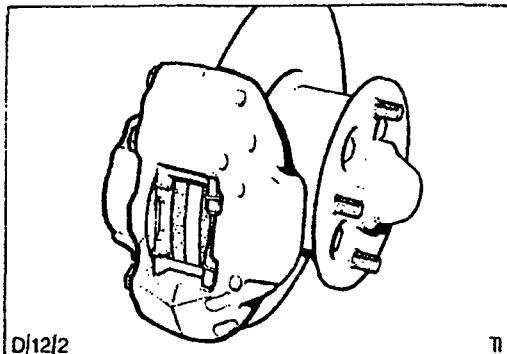

Fig. 6. Disc and Caliper assembly.
4. Inspect brake discs and pads for signs of wear and damage, Fig. 6.